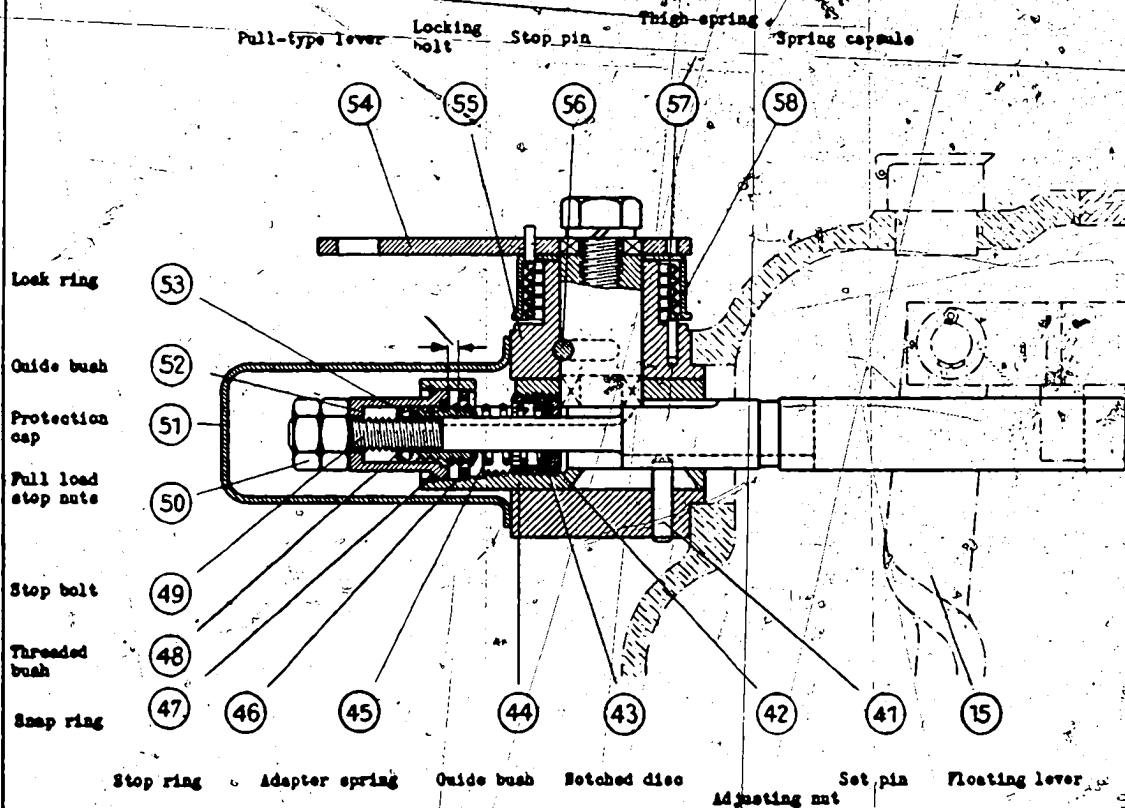

Fig. 15 Sectional view of control rod stop with assembling device
H) Control rod stop (see Fig. 15)
11. Fill up with good quality engine oil or, Oil 1 v 10 through the flap-covered lubricator, until the oil emerges at the screw plug (5).
D) Control rod stop with adapting device (see Fig. 15)